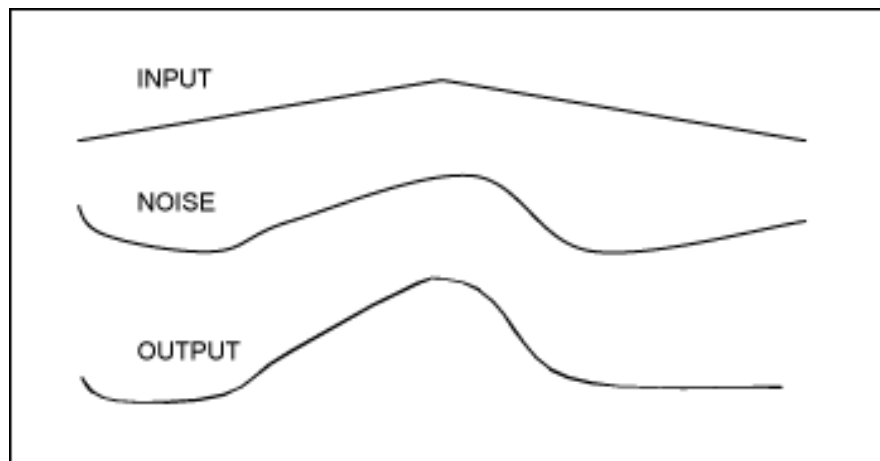
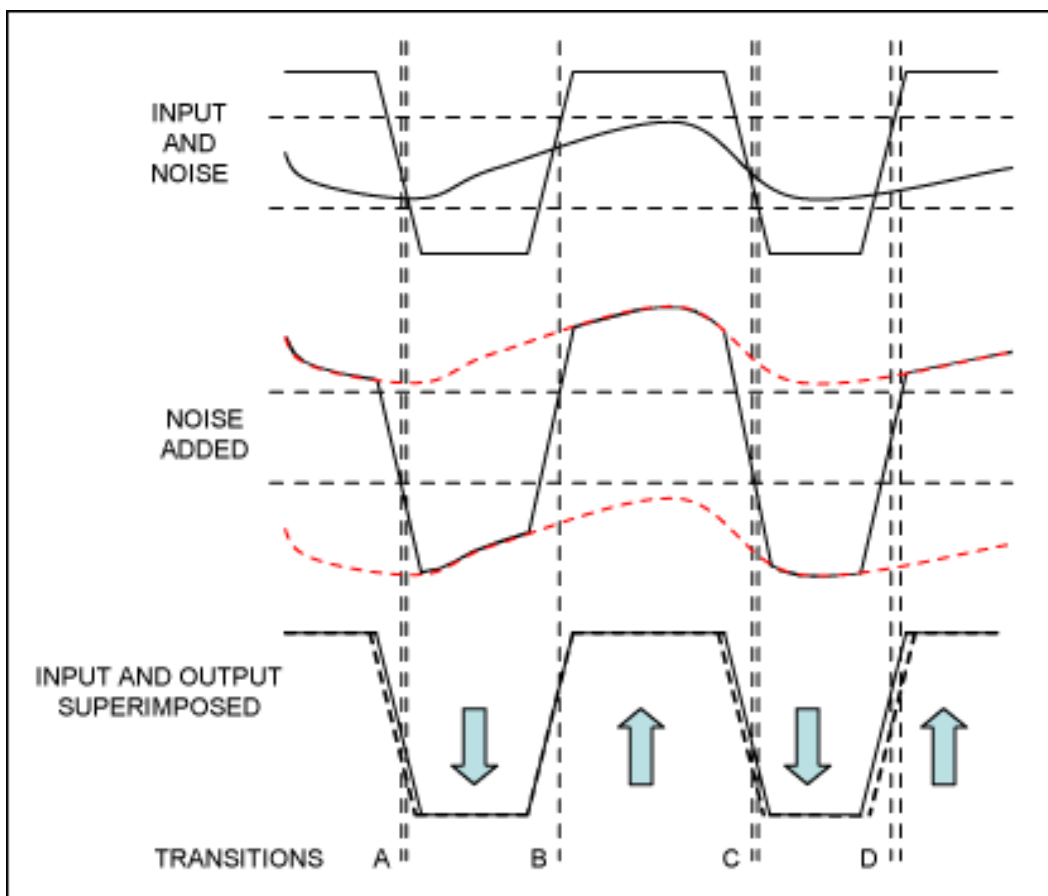

Figure 1. An input signal, noise, and the two added together.
Figure 3. Signal plus noise with the resulting time errors.
Designers expect analog signals to be easily affected by noise. The lower waveform in **Figure 1** is the direct result of adding noise to the signal, obviously a bad thing. However, digital is thought to be protected by thresholds. This thinking is erroneous, as we will see.
**Figure 3** repeats parts of Figures 1 and 2, but adds vertical lines to illustrate how the analog noise changed the output timing. Clearly, more than just missing the amplitude (up and down) thresholds is necessary. Looking carefully at the transitions, we see that the negative transition "A" is early compared to its intended position. The positive transition "B" is late compared to its intended position.